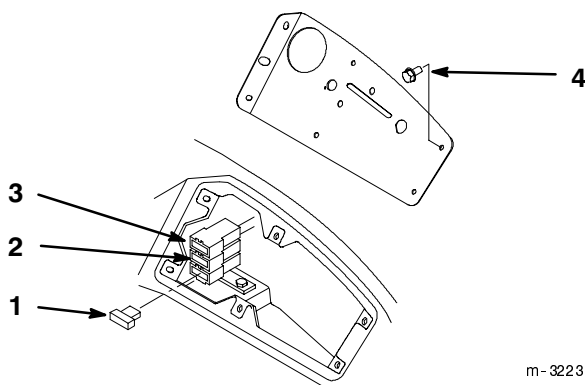

Figure 85
1. Remove dash panel screws to gain access to fuse holder (Fig. 85).
2. To replace fuses pull out on the fuse to remove it (Fig. 85).